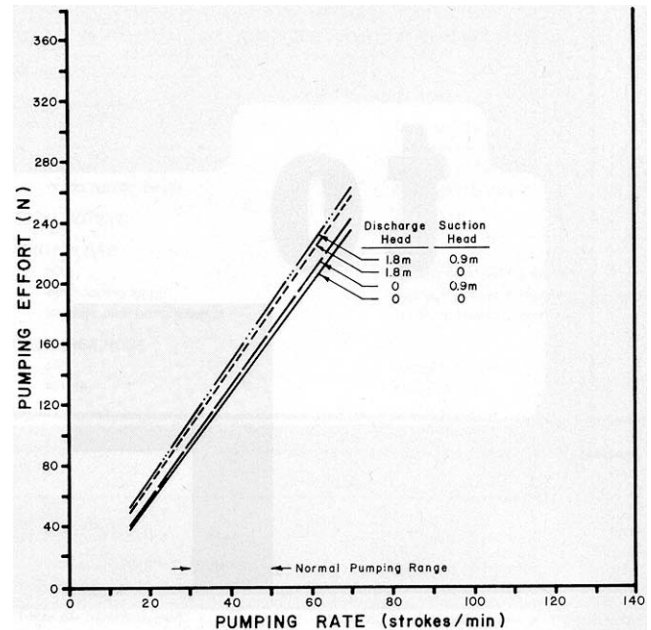

FIGURE 3. Pumping Effort with Diesel Fuel at Various Pumping Rates, Suction and Discharge Heads.
**Pumping Effort:** Pumping effort is the hand force that has to be exerted, perpendicular to the pump handle, to operate the pump. FIGURE 3 shows the hand forces needed at various pumping rates, suction heads and discharge heads. Pumping effort increased with increases in both pumping rates and head. At a pumping rate of 50 strokes per minute, with zero suction and discharge heads, pumping effort was 183 N (37 lb) compared to an effort of 91 N (20 lb) at 30 strokes per minute. At an average pumping rate of 40